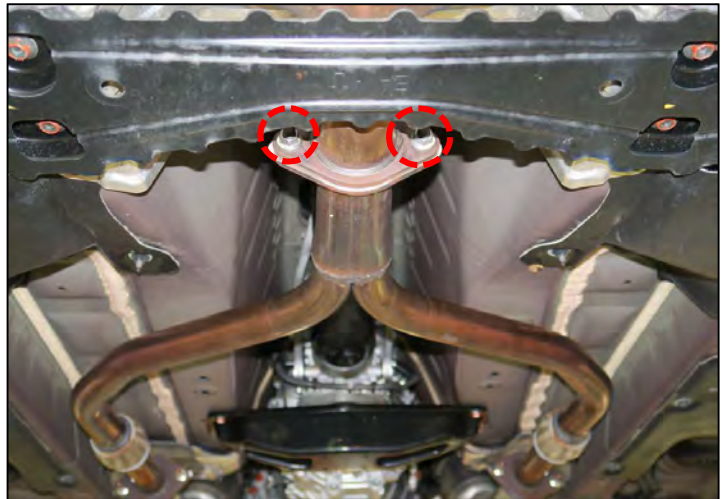

Figure 3
5. Remove the (2) nuts from the center exhaust tube flange. (Figure 3)